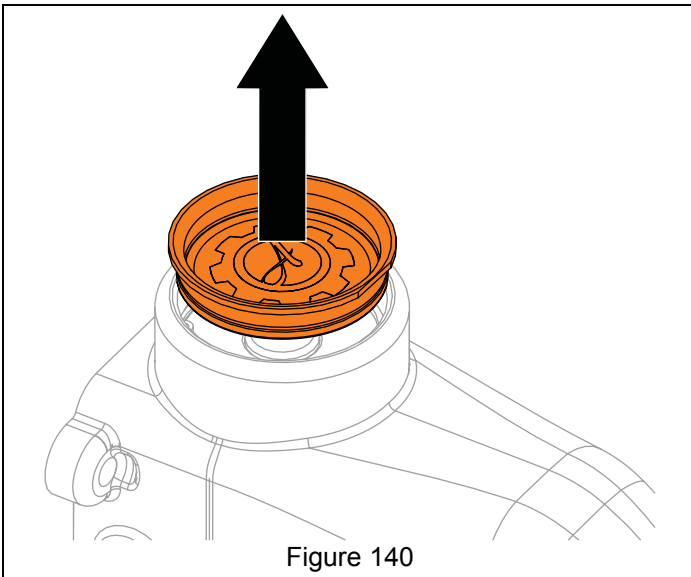

Figure 140
6. Remove bushing retainer from gearcase. See Figure 140.